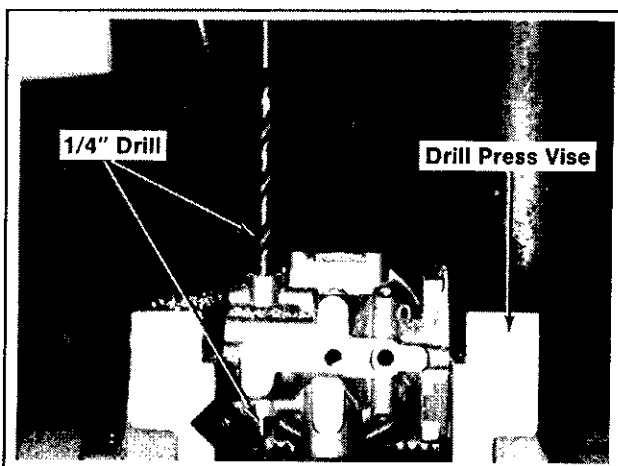

Figure 6A-9. Aligning/Drilling Carburetor Body.
2. Install a $1/4"$ dia. drill in drill press chuck. Lower drill (not rotating) through both choke shaft bores; then tighten vise. This ensures the carburetor body and drill are perpendicular and in correct alignment. Refer to Figure 6A-9.